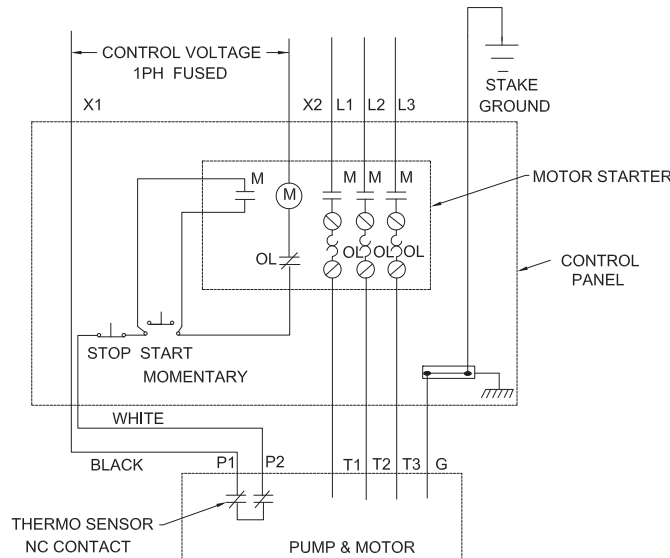

FIGURE 4
Current sensing overloads must be provided in the pump control panel and should be properly sized for the full load current of the pump. Three normally closed (N/C) thermal sensors wired in series (one per phase) are embedded in the motor windings and will detect excessive heat in the event an overload condition occurs which will then trip and stop the pump when wired in series with the pump contactor control circuit. The thermal sensor leads marked P1 and P2 **MUST** be connected in series with the stop button of the pilot circuit of the magnetic motor controller located in the control panel so that the thermostat will open the circuit before dangerous temperatures are reached. A manual momentary start switch is required to prevent the automatic restarting of the motor when the thermostat resets. For a typical wiring diagram, refer to Figure 4.
A normally open (N/O) detector is installed in the pump seal chamber, which will detect any moisture present, and a continuity test resistor built into the motor. The test resistor is rated 1 watt at 330K ohms. The moisture sensors **MUST** be connected to an intrinsically safe moisture detector control in the control panel which includes a continuity test circuit, see Figure 4 for typical wiring diagram. The normally closed (N/C) contact of the moisture detector **MUST** be connected in series with the stop button of the pilot circuit of the magnetic motor controller. Wiring must be provided from the moisture detector sensor probe leads of the motor designated W1 and W2 to terminals 9 and 10 of the 2800-XXX control. Terminal pair 1-2 must be continuously energized from an A-C supply line of electrical characteristics shown on the data table. In the event of moisture detection, the pump should be pulled and the source of the failure located and repaired. **IF MOISTURE DETECTION HAS OCCURRED, SCHEDULE MAINTENANCE AS SOON AS POSSIBLE !**
- b. A temperature sensing circuit (see Fig. 4)